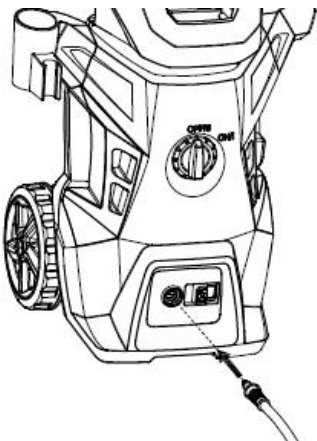

Fig.3
Attach the high-pressure hose (11) to the water outlet of the high-pressure cleaner, located at the front of the machine (Fig.3). Quickly insert and connect to avoid leakage. When the parts are properly assembled, you cannot pull the pipe apart. Press the button next to the inlet, in the direction of the arrow, then you remove the high-pressure hose (Fig. 3). Attach the high pressure hose (11) to the gun (9) (Fig. 4). When the hose is correctly assembled, you cannot remove it by pulling on it (11). To remove the hose from the gun, press the lock button on the gun, then remove the hose.